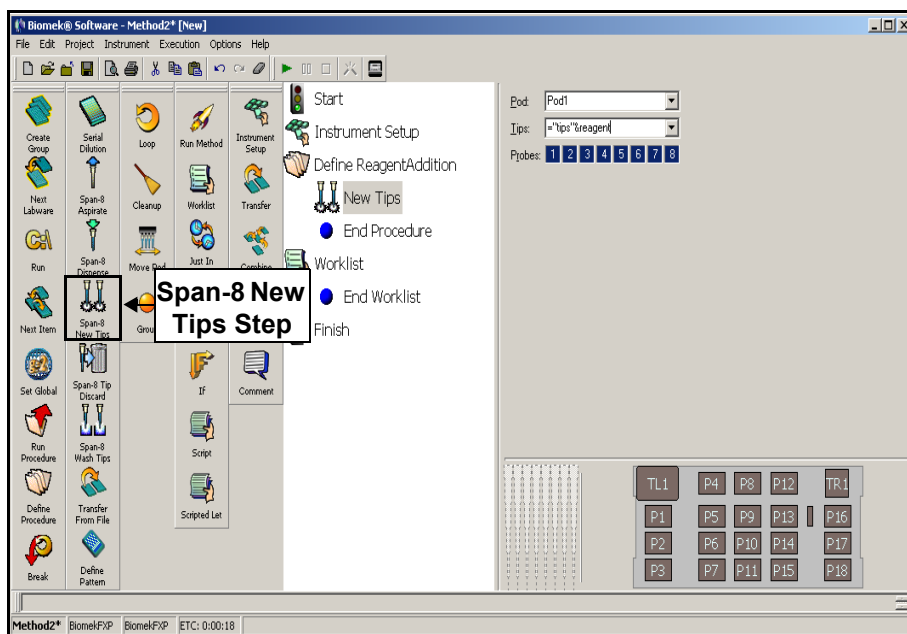

Figure 8-6. Span-8 New Tips configured
2. In Tips in the configuration view, highlight the field and enter **=“tips”&reagent** (Figure 8-6). Remember that variable names are not case sensitive.